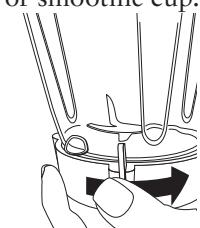

Fig4
- NOTE: For proper installation onto Blender Motor base, make sure locking lever rotates past the anti-rotation tabs on the Blender jar or smoothie cup. See (Fig4).